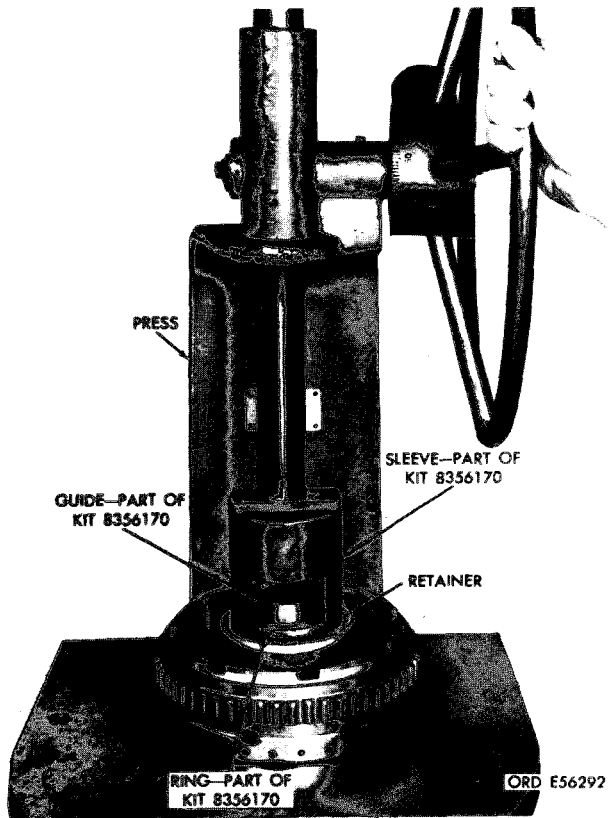

Figure 5-71. Installing high-range clutch spring retainer snap ring using press and guide (part of kit 5180-572-8607 (8356170)).
(7) Place sleeve, part of kit 5180-572-8607, on ring and using a press, install snap ring in place (fig. 5-71).